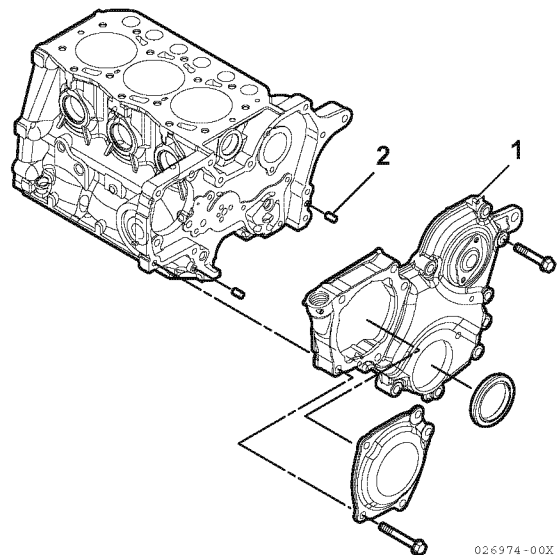

Figure 6-38
4. Remove the gear case cover (**Figure 6-38, (1)**).
5. Remove the dowel pins (**Figure 6-38, (2)**).